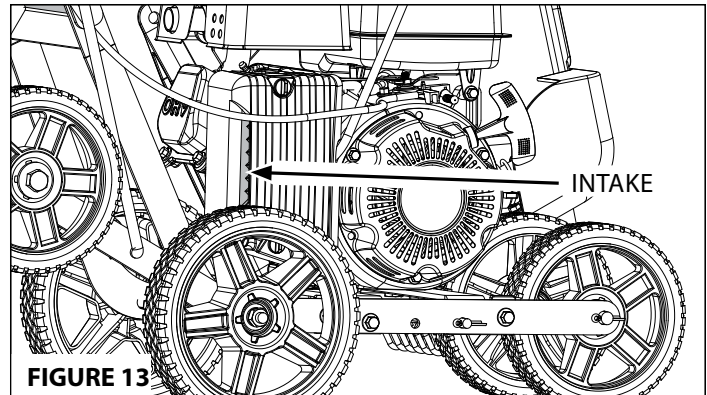

FIGURE 13
1. Remove all debris from intake and cooling fins to ensure proper air flow. **SEE FIGURE 13.**